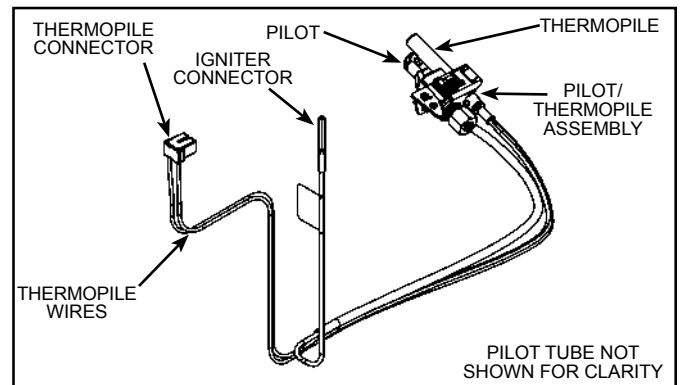

Figure 36
- Lift the pilot/thermopile assembly (including the igniter wire) from the manifold assembly (see Figure 36).